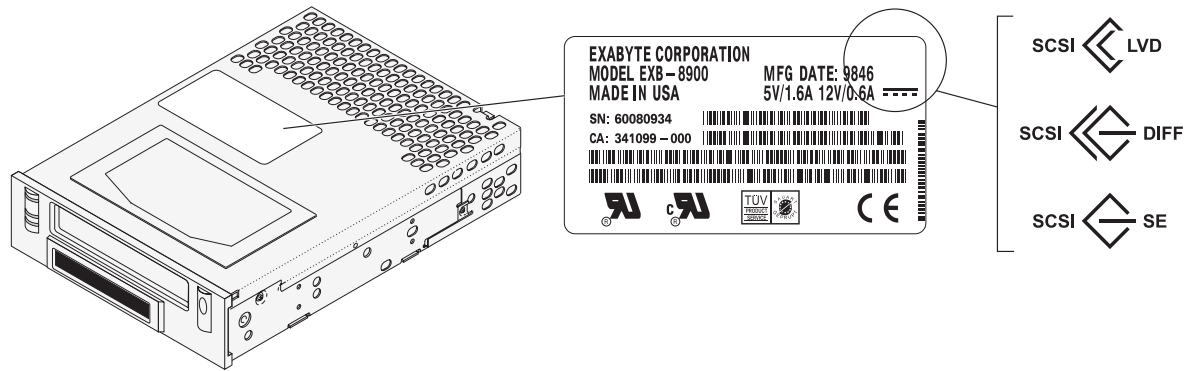
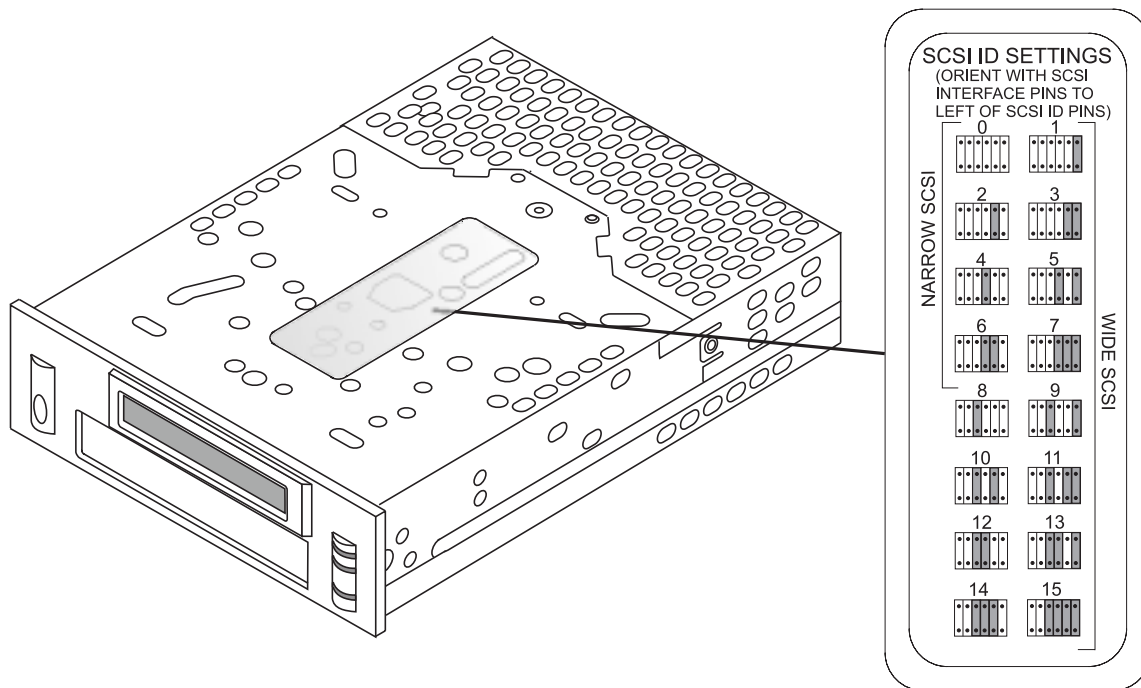

Figure 1-8 Product ID label location for the internal model
Figure 1-9 SCSI ID label location for the internal model
All wide SCSI configurations (single-ended, HVD, and LVD) use the same 68-pin connector. Do not connect a single-ended wide or LVD tape drive to an HVD SCSI bus. Doing so may cause the SCSI bus to hang. Refer to the product ID label (see Figure 1-8) to determine the SCSI configuration of your tape drive.
The product ID label on the internal tape drive, shown in Figure 1-8, shows the machine level change history (MLCH), serial number, and SCSI configuration. The SCSI ID label on the bottom of the tape drive, shown in Figure 1-9, illustrates the tape drive SCSI ID settings. (See Appendix A for the tabletop model's label locations.)
- Although you can connect single-ended and LVD SCSI tape drives to the same SCSI bus, mixing the two types of devices will result in all devices on the bus operating as single-ended devices. Refer to the product ID label (see Figure 1-8) to determine the SCSI configuration of your tape drive.
All wide SCSI configurations (single-ended, HVD, and LVD) use the same 68-pin connector. Do not connect a single-ended wide or LVD tape drive to an HVD SCSI bus. Doing so may cause your SCSI bus to hang. Refer to the product ID label (see Figure 1-8) to determine the SCSI configuration of your tape drive.